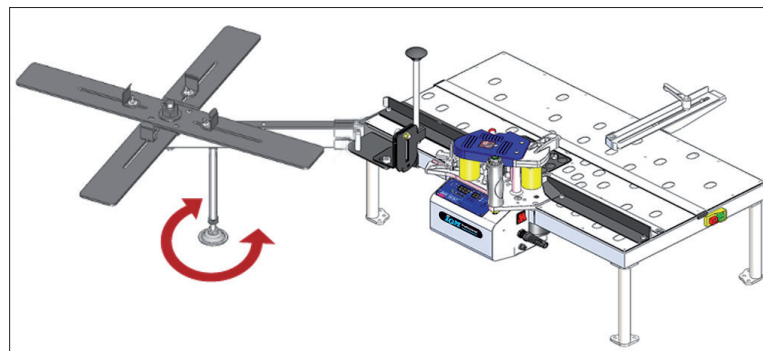

Fig. 14
- Swing cutting blade (Optional accessories) (Fig 14) could easily cut the tape while working on edgebanding.